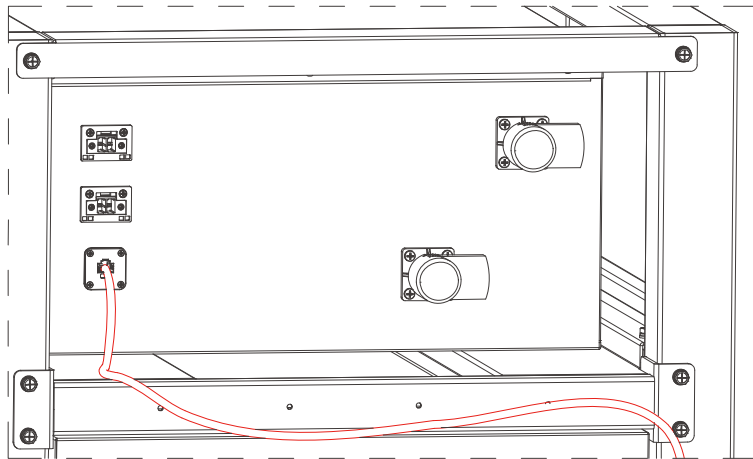

Figure 2.12
(8) The main control box communication CAN line is connected to the PCS communication CAN line. Plug in and lock the main control box CAN communication plug, and lock the PCS communication CAN port (Figure 2.12).